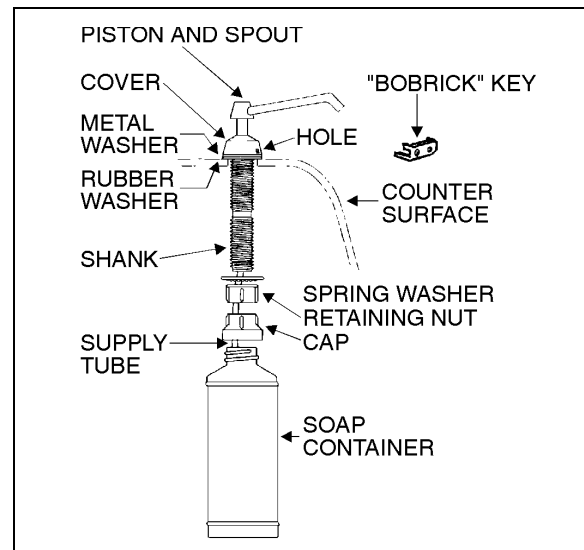

FIGURE 26: LIQUID SOAP DISPENSER
2. Insert projection at end of "BOBRICK" key into rectangular hole in cover (see fig. 26). Push straight in. While holding "BOBRICK" key in, turn cover counterclockwise about 1/8 turn.